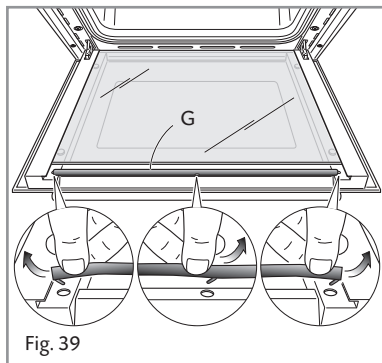

Fig. 39
- Remove the seal "G" by unhooking the no. 3 fixing hooks (fig. 39).